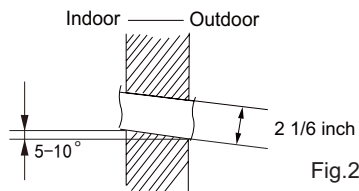

Fig.2
(2) Open a piping hole with the diameter of 2 1/6 inch on the selected outlet pipe position. In order to drain smoothly, slant the piping hole on the wall slightly downward to the outdoor side with the gradient of 5-10°. (As show in Fig.2)